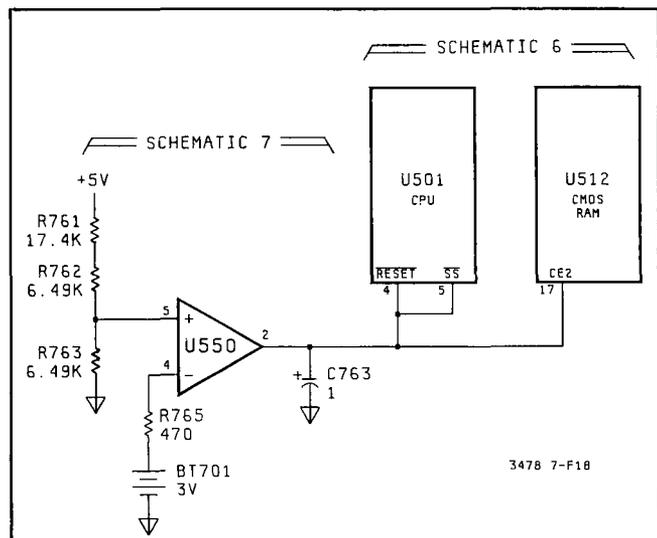

Figure 7-F-18. Power-On Circuitry
a. Power-On Circuitry. Refer to Figure 7-F-18, or Schematic 3 and 4. The Power-On Circuitry resets the CPU when the 3478A is turned on and when +5V power supply is low. The step by step operation is as follows: